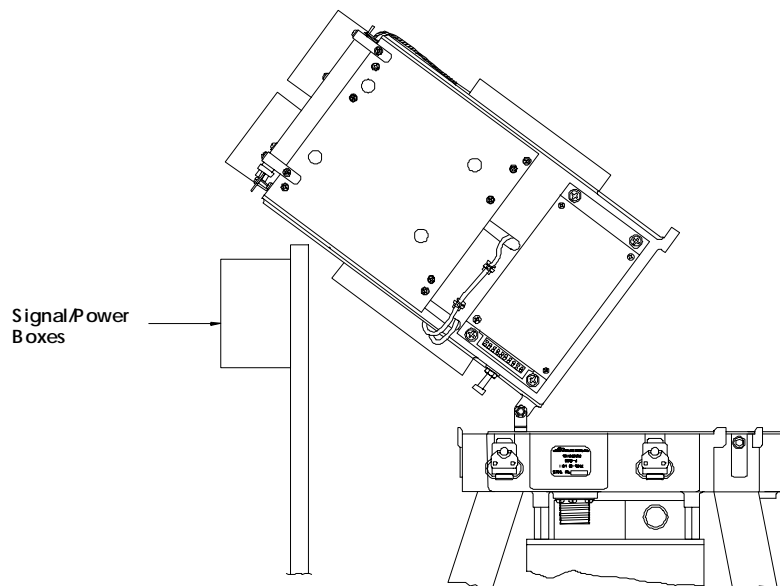

Figure 3.8
4. **Do not** align the ceilometer so that the ceilometer cannot be folded down (due to junction boxes, post etc.), as shown in Figure 3.8.